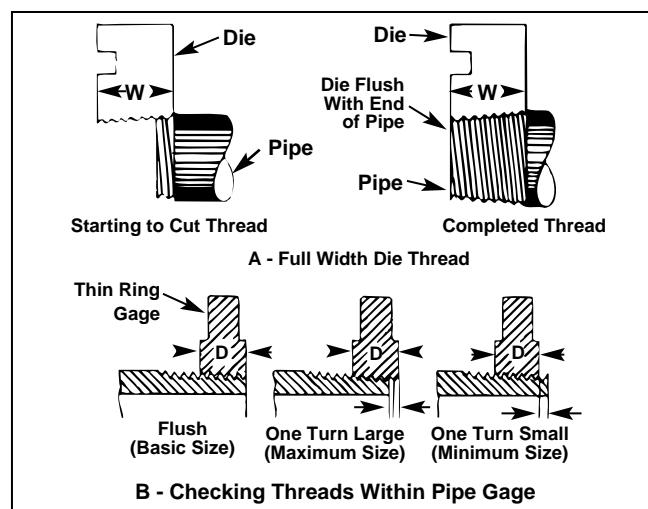

**Figure 11 – Semi-Automatic Die Head**
**Semi-automatic die head (*Figure 11*)** – When the end of the pipe being threaded is flush with the end of the number 1 die, hit the handle for the dies to release the pipe.
The Semi-Automatic Die Head (*Figure 11*) for right hand threads requires four sets of dies to thread pipe ranging from  $\frac{1}{8}$ " through 2". One set of dies is required for each of the following pipe size ranges: ( $\frac{1}{8}$ "), ( $\frac{1}{4}$ " and  $\frac{3}{8}$ "), ( $\frac{1}{2}$ " and  $\frac{3}{4}$ ") and (1" through 2"). Bolt threading requires a separate set of dies for each bolt size.
1. Depress handle so that camplate rests (*Figure 11 – Model 816/817 Die Head*) against the stop. (As shown).